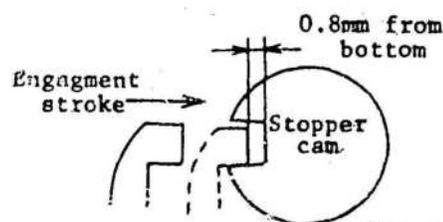

Fig 1
- Thread the cable as shown in figure 1.